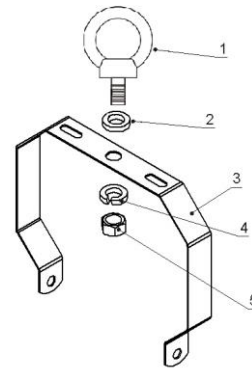

Figure 2
4.2.2 For versions with eye-bolt on bracket (3) the eye-bolt M8 (1) + M8 washer (2) should be fastened from the other side with M8 spring washer (4) and M8 nut (5). (fig. 2).